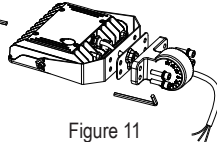

Figure 11
Step 4: Pull the wire through the knuckle upper part. Using an Allen key (7/32), install the knuckle upper part to the "U" shaped bracket, with the screws provided. Pull the wire through the knuckle lower part. (Figure 11)